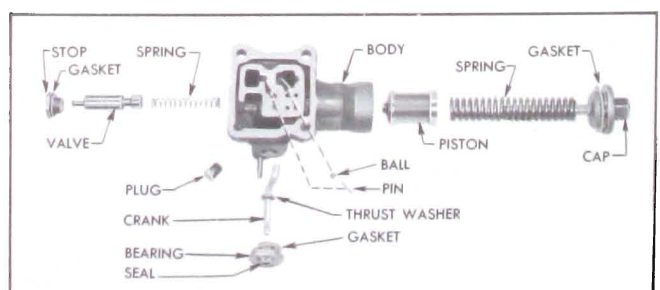

Figure 5-85—High Accumulator—Disassembled
2. Remove the pipe plug, cap, gasket, spring (2 in low) and piston from accumulator body. Keep parts separated so that same parts will be reinstalled in same body. See Figure 5-85.
3. On high accumulator only, remove clamp bolt, lever, bearing with seal, gasket, thrust washer and control valve crank from accumulator body, then remove valve stop with gasket, control valve and spring. See Figure 5-85.
seal (grooved side inward), operating lever and clamp bolt. See Figure 5-85.
13. Install pipe plugs in both accumulator bodies and install check ball and retaining pin in the high accumulator body. See Figure 5-85.